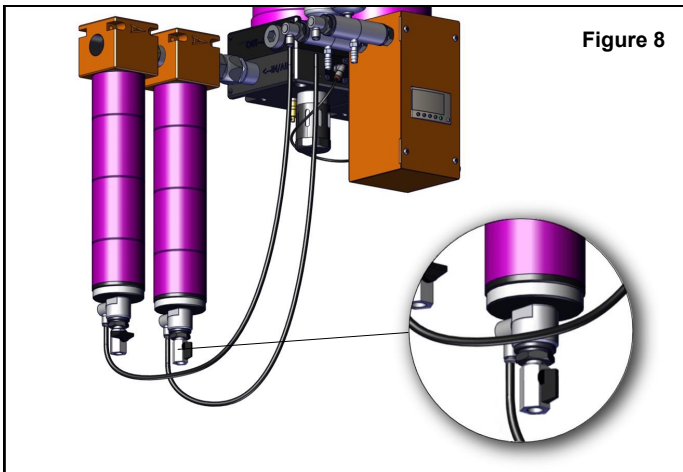

Figure 8
1. Once the system pressure has been released, open either ball valve located on the bottom of the filter housing to release any remaining pressure inside the unit. *Figure 8*